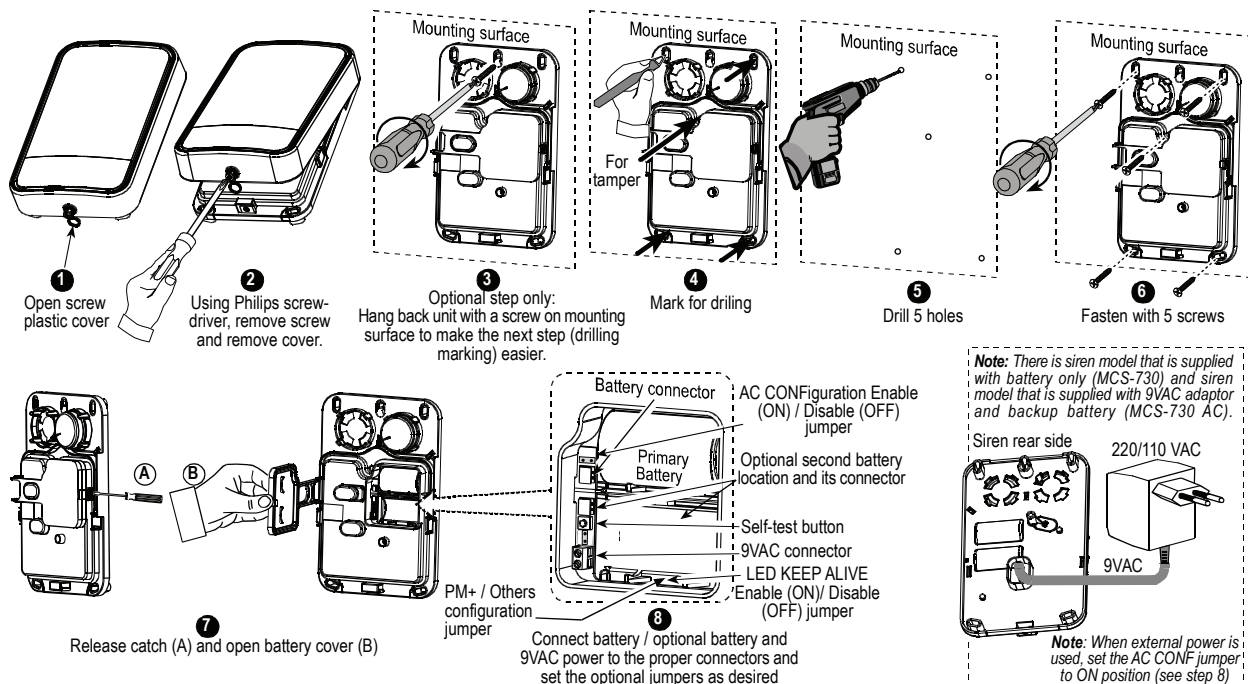

Figure 3 – Installation
- **Siren activity LED:** A flashing LED (optional, at the bottom of the siren front panel) indicates siren activity (can be disabled by an internal jumper, see fig. 3, step 8)
Press the self test button (see figure 3 step 8). Low level piezo sounds and flash lights indicate that the siren is fully operational.
3.3 Configuration (see figure 3, step 8)
The alarm system must recognize the siren's unique identification code for command delivery and supervision. To enroll the siren into the alarm system memory, refer to the ENROLLING section of the alarm system installation instructions, and momentarily press the Self-Test button (see figure 3 step 8) when you are instructed.